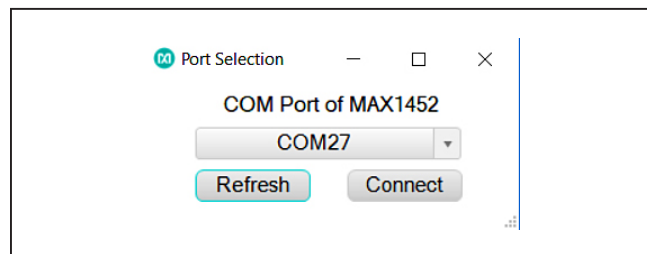

Figure 1. Port selection window
- 6) When the EV kit GUI is launched, select the right **COM Port selection** from the window appears, select the right **COM port** from the Port Collection window and click **Connect**. (See Figure 1).